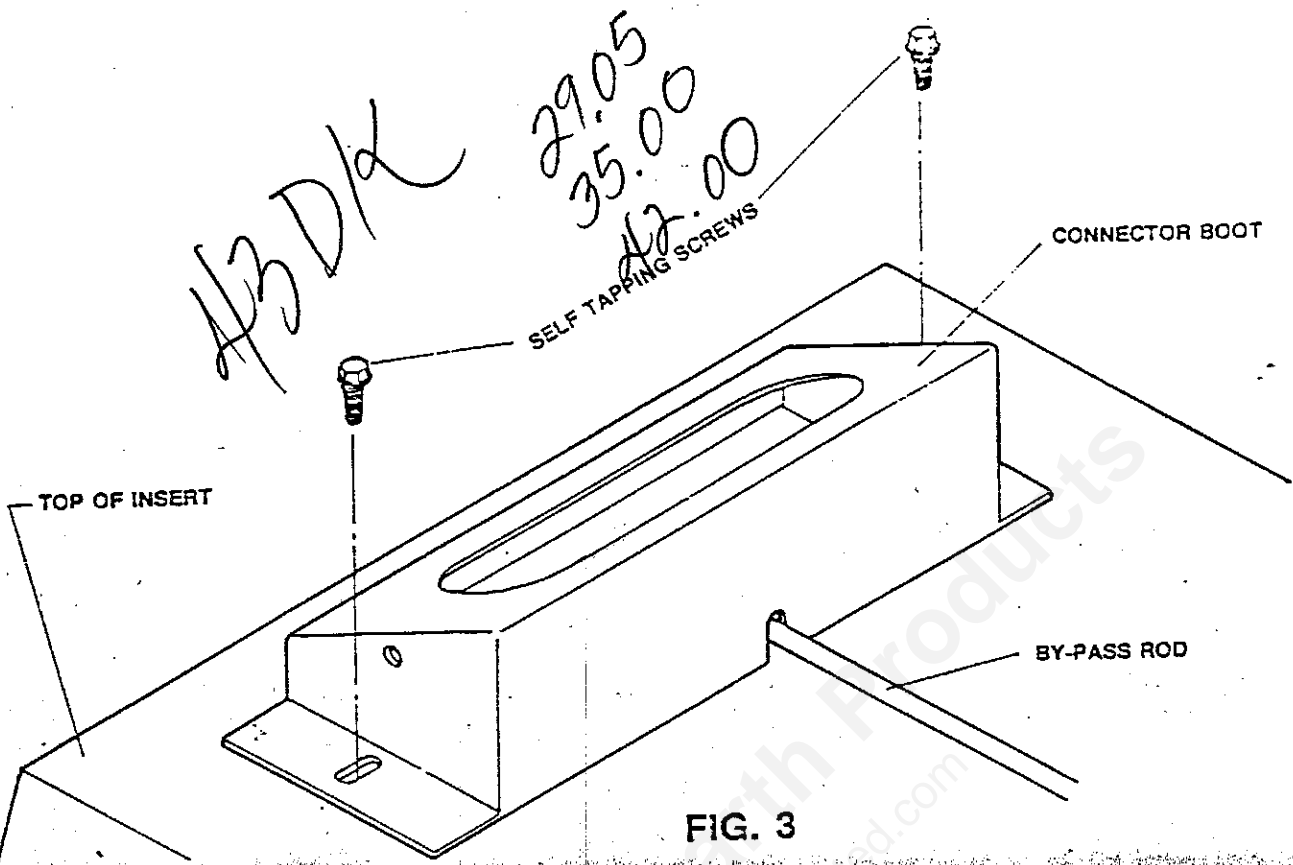
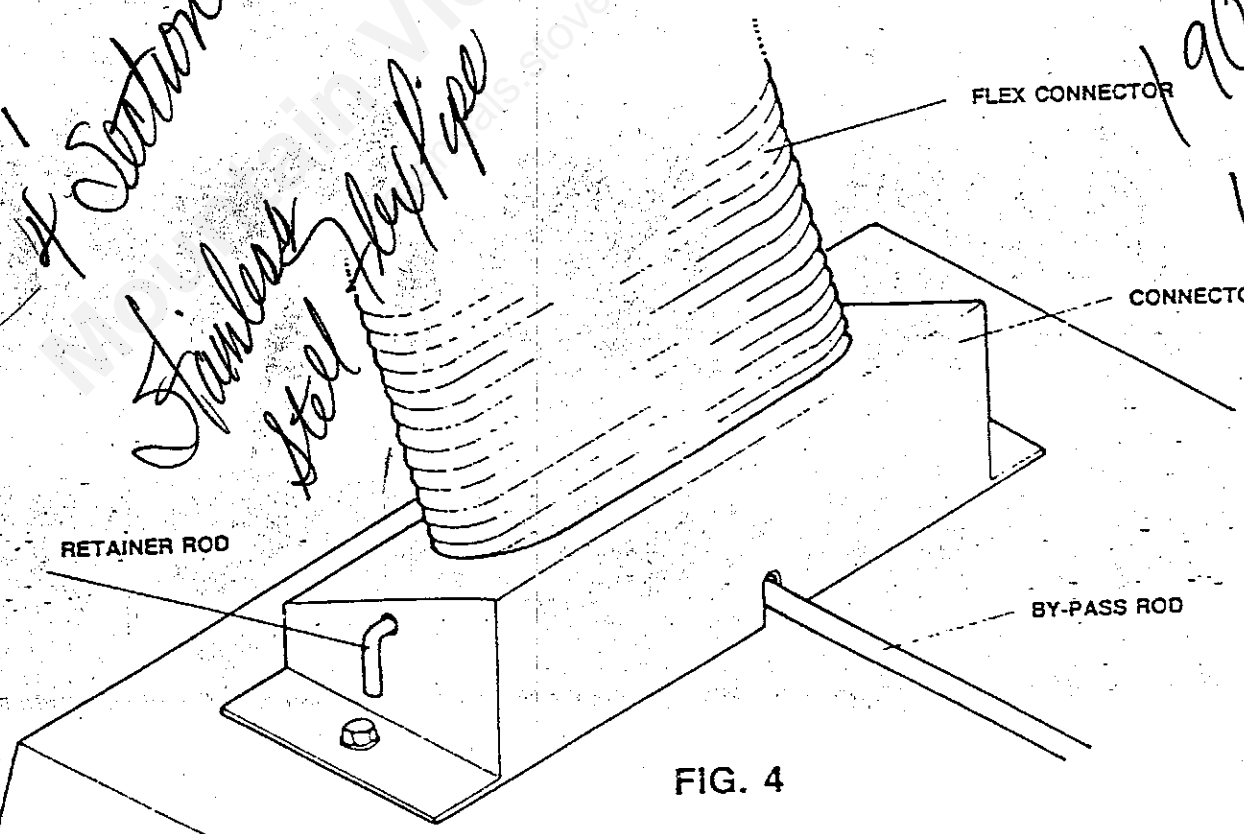

FIG. 3
FIG. 4
5. If holes are not predrilled in top of 4500 insert, use boot connector for template to mark and drill holes (2) with drill bit provided in kit as shown in Fig. 3. If your insert has been predrilled at the factory, remove the self tapping screws, determine correct angle for boot placement: (Note: Boot is reversible to accommodate angle of flex connector into damper frame.) Place boot on insert top, make certain by-pass rod fits freely into slot in side of boot. Tighten boot in place with screws provided in kit. (See Fig. 4)
6. Slide insert into proper position in fireplace, slip flex connector into hole in boot, align holes in connector with holes in end of boot and slide the rod through both holes. (Fig. 4)